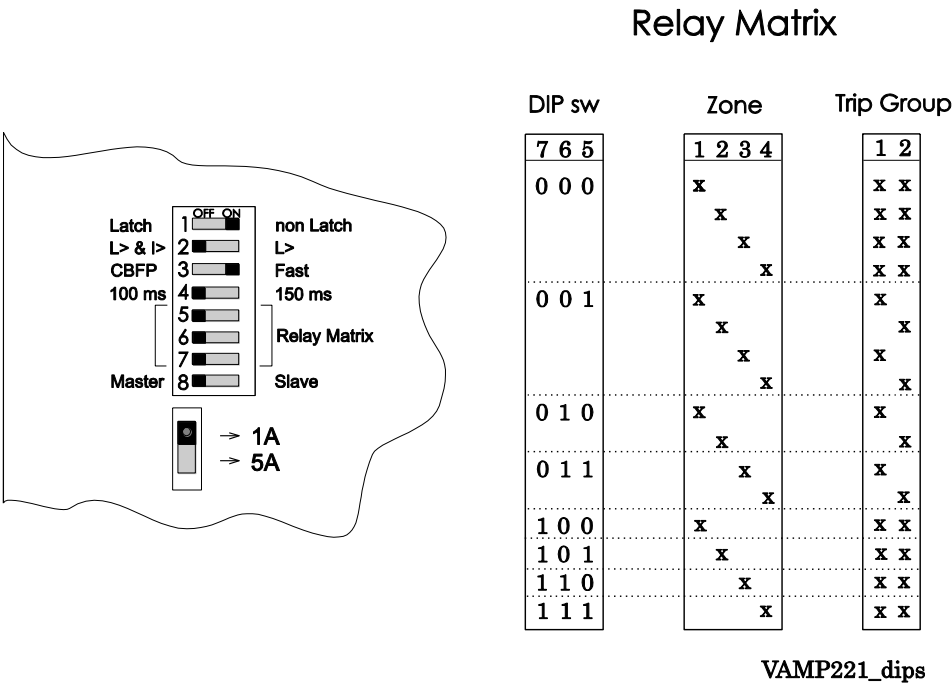

Figure 3.2.1-1 Programming switches in the front plate of the central unit
**Switches 5, 6 and 7** determine the relay connection matrix. In the matrix the arc trips in different zones can be directed to two separate tripping groups (see Figure 3.2.1-1).